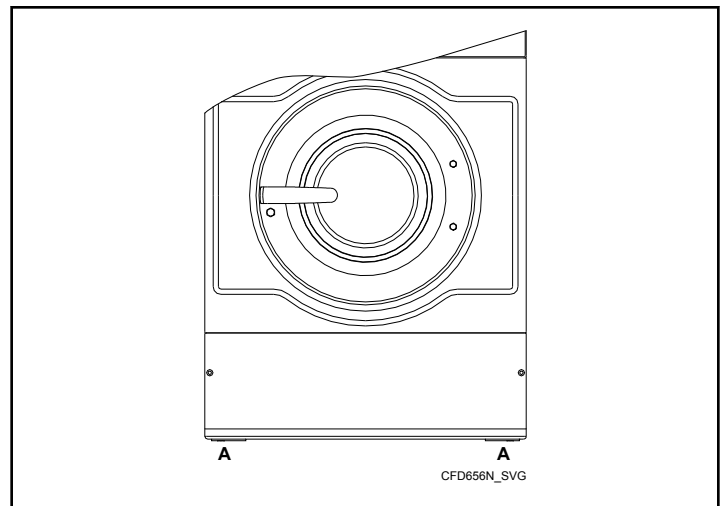

Figure 13
The machine must be securely fixed on a flat surface (metal base, concrete or solid ground). The anchoring is to be done on the provided places (A), refer to *Figure 13* , in the holes on the corner of the base. Refer to Mounting Bolt Hole Locations.